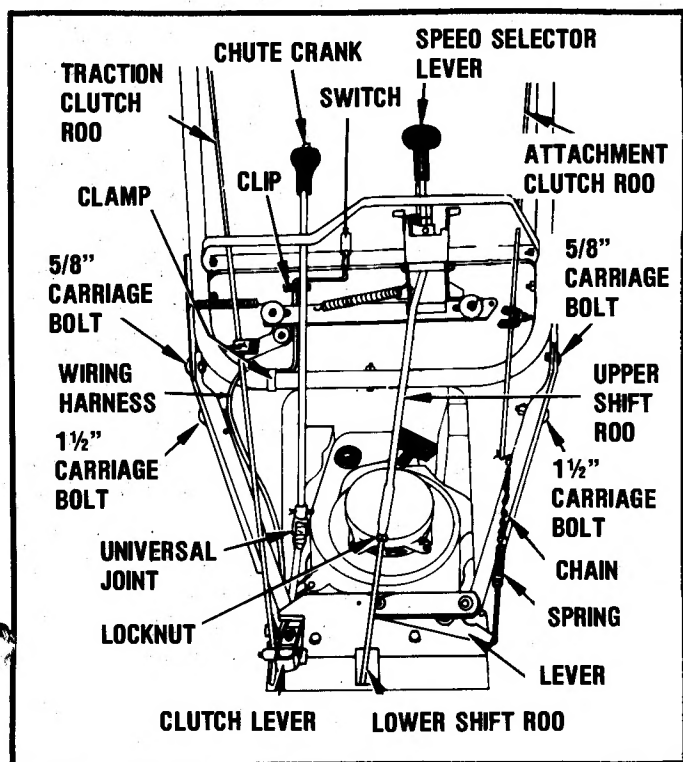
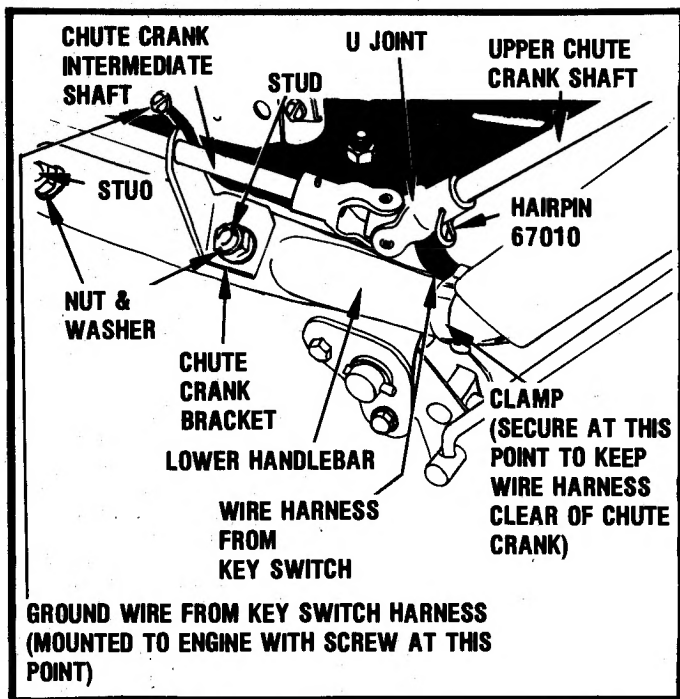

FIGURE 15
FIGURE 17
HANDLEBAR — FIGURES 15 & 22
CHUTE CRANK — FIGURES 15 & 17
SPEED SELECTOR — FIGURE 15
ATTACHMENT CLUTCH ROD — FIGURE 15
TRACTION CLUTCH ADJUSTMENT — FIGURES 15 & 18
KEY SWITCH CONNECTION — FIGURES 15 & 17
The key switch is factory installed in the handlebar panel and the wiring is connected to the engine. Route the wiring harness up the inside of the panel, alongside the lower handlebar. Install clamp to the lower handlebar (left side) as shown in Figure 17. Be sure to position clamp and wires as shown. Position wire in clip on handlebar panel as shown in Figure 15. Install clamp on upper handlebar to secure wire harness as shown in Figure 15. Connect wire harness to switch. Wires can be connected to either terminal.
3. Engage both clutch levers ("DOWN" position). Adjust clevis on attachment clutch rod to where it clears roller in slider by 1/16" and the "toe" of the clevis is parallel to the slider. Secure clevis with setscrew at this position. See Figure 17.